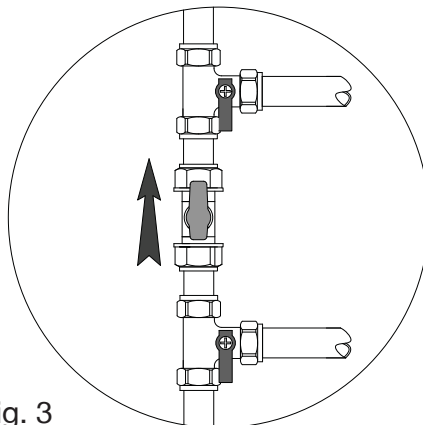

Fig. 3
- b) It is advisable to fit a bypass pipe and isolating valves. This will allow removal of the pump for maintenance and servicing, and ensure the water supply into the property is still available during that period (Fig. 3).